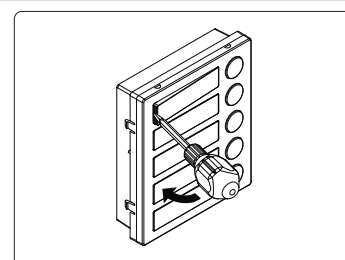

Fig. 13
- Move the screwdriver to the left as shown in **Fig. 13** to extract the card name holder.